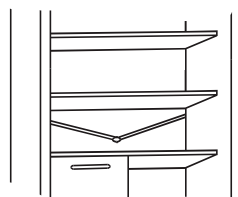

Fig.19
- Keep the drainage pipe (fig.19) clean in the refrigerator compartment to keep it free of water.